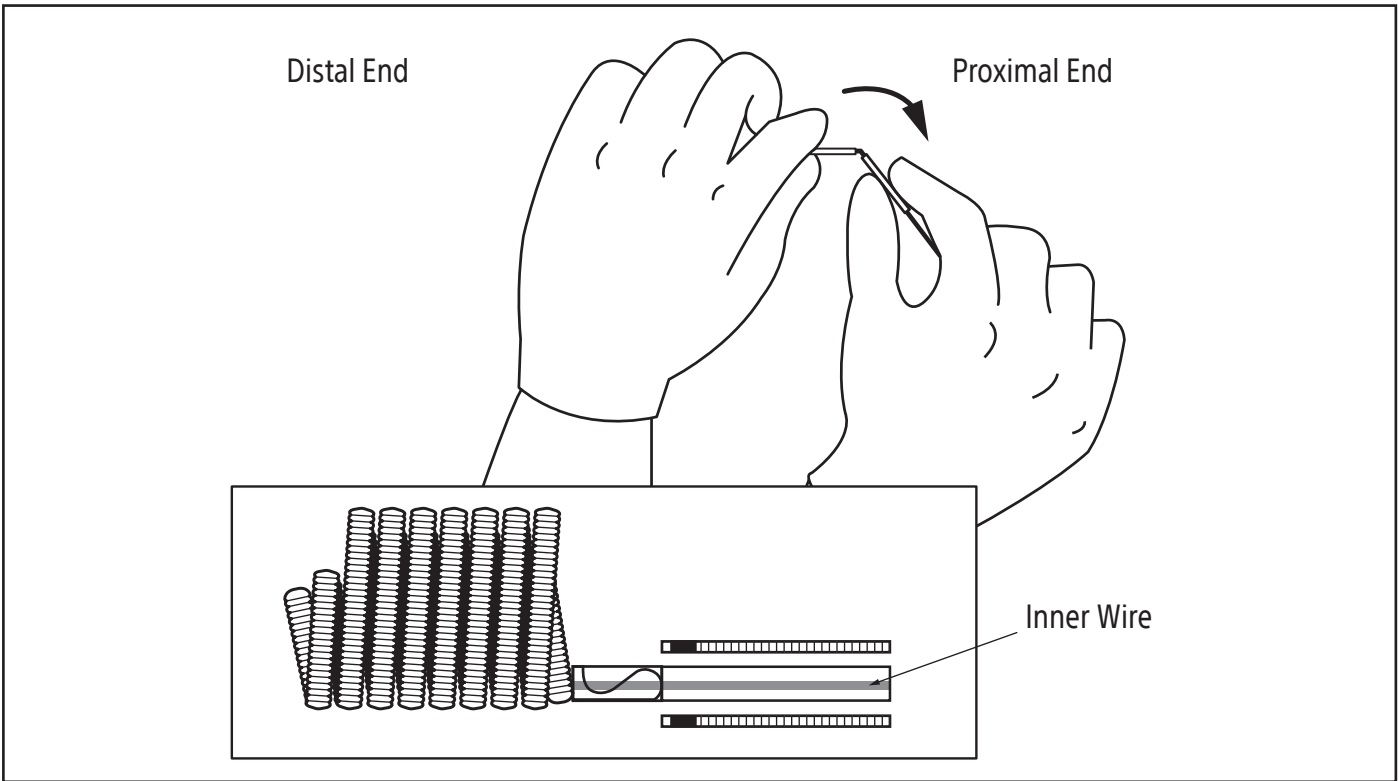

Figure 8. Coil detachment initiation
2. While holding the distal mark steady, slowly bend the proximal mark until the delivery wire snaps between the 2 markings (Figure 8).